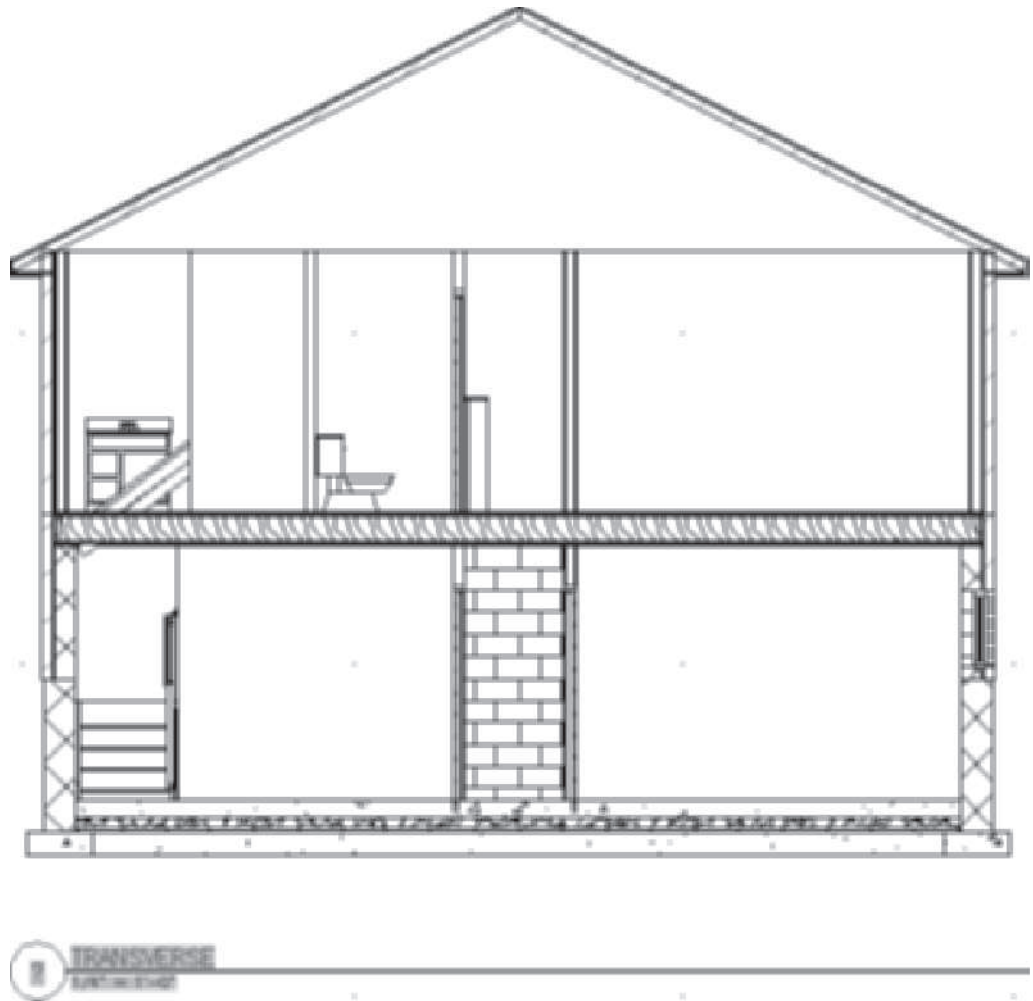

FIGURE 12.86 Hatch pattern removed from objects with the Standard material definition
17. Select the section, right-click, and choose **Refresh**. The hatching is removed from components with the Standard material definition as shown in Figure 12.86.